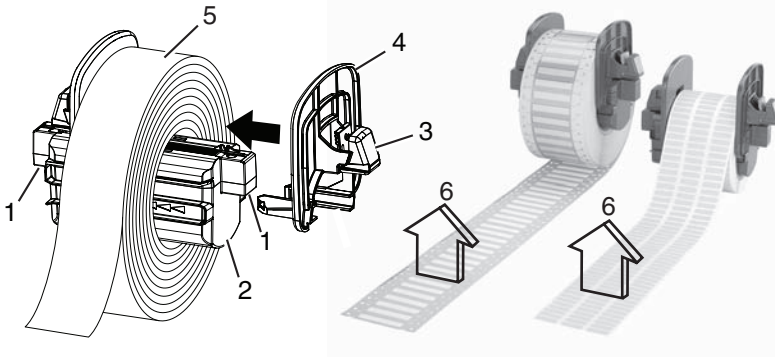

Figure 20, Material Supply Holder
2. Remove the material supply holder (**Figure 20, 2**) from the printer by lifting it up and out of the frame.
There are electrical contacts located under the side tabs (Figure 20, 1) on both sides of the material supply holder. Be careful not to damage these electrical contacts or the Brady IP Printer will be unable to read the material identification tag on the labels.
3. Press and hold the green tab (**Figure 20, 3**) on the material supply holder and slide the end piece (**Figure 20, 4**) outward.
4. Slide the Brady labeling material roll onto the material supply holder. Make sure material roll is installed with label printable side (up) towards printhead (**Figure 20, 6**). Reinstall the end piece (**Figure 20, 4**), which will automatically center the roll on the holder.
5. Reinsert the material supply holder onto the bracket grooves on the frame. Ensure the electrical contacts under the side tabs (**Figure 20, 1**) are properly seated in the frame so the printer will correctly read the material identification tag.